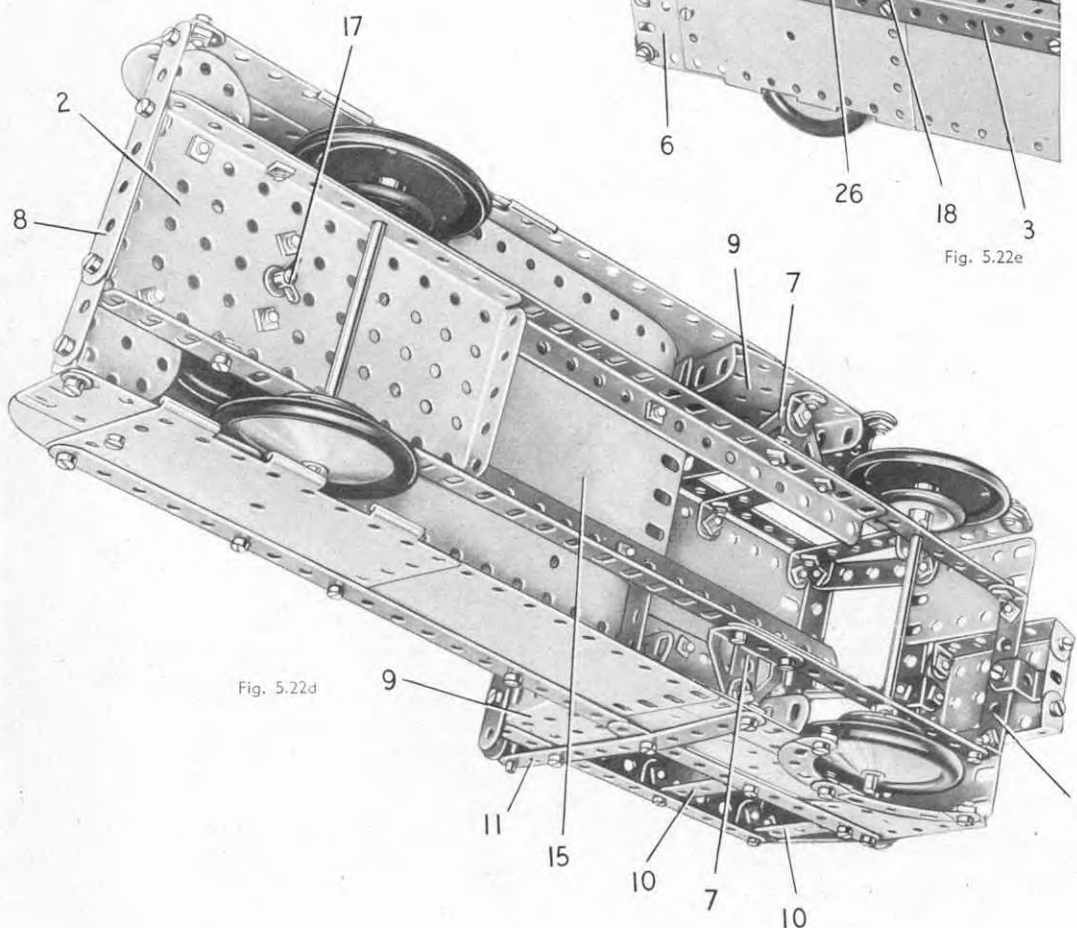

Fig. 5.22d
**CONSTRUCTION DU CHASSIS** (Fig. 5.22d)